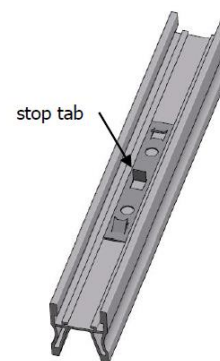

Fig 4.2.2A: Rail Joiner
- I. To increase the array length, rails can be spliced together using rail joiners [Fig 4.2.2A].